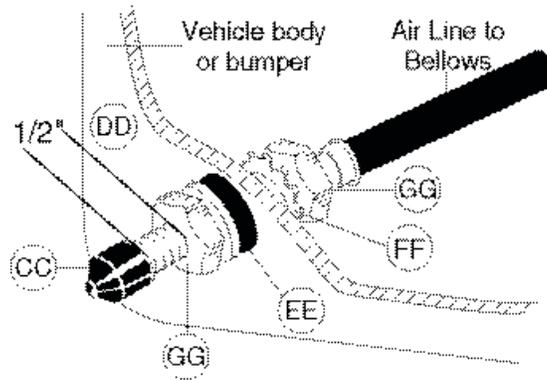

fig. 10
4. Install the inflation valves as shown in Figure 10.